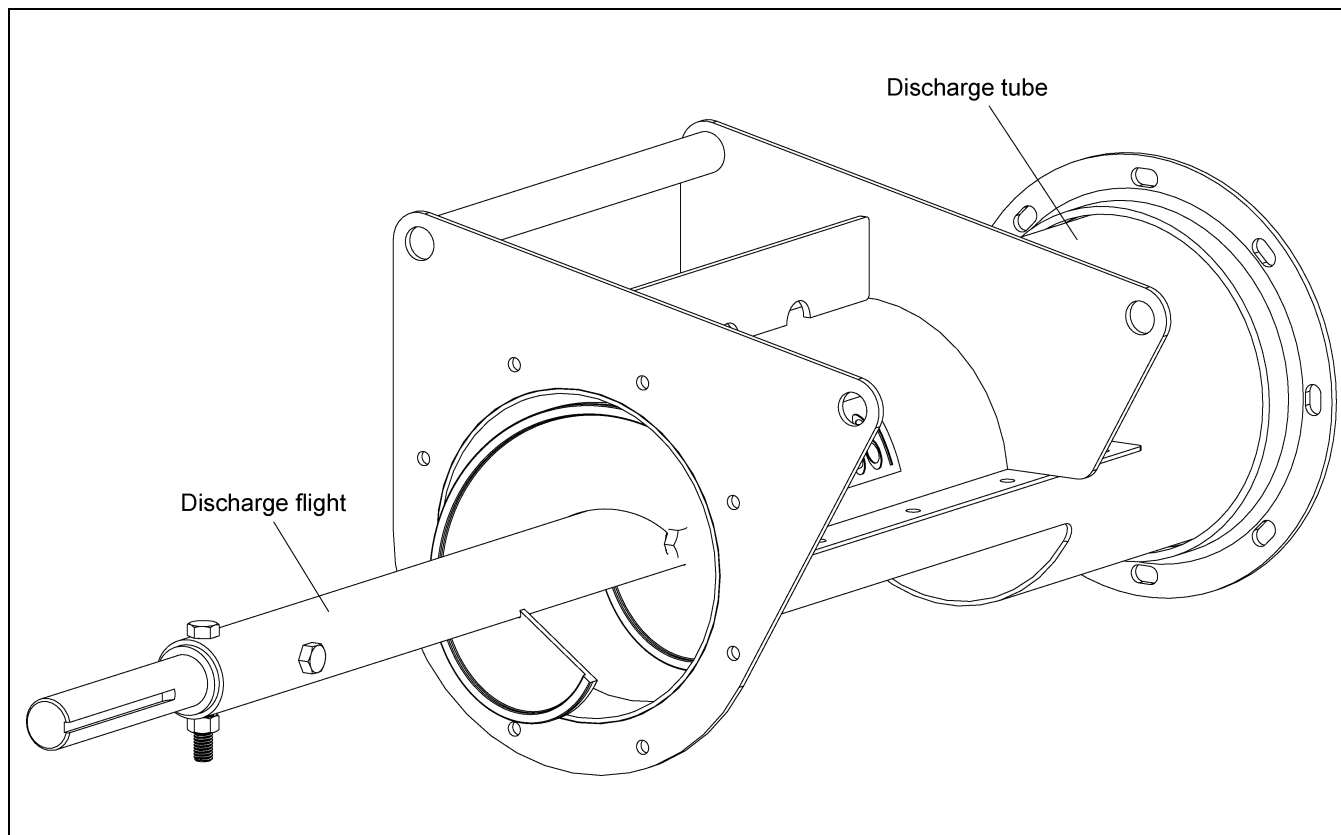

Figure 4B
1. Once the discharge tube has been bolted to the unload tube, slide the discharge flight into the tube and align the connecting shaft holes with the holes on the unload flight. *(See Figure 4B.)*